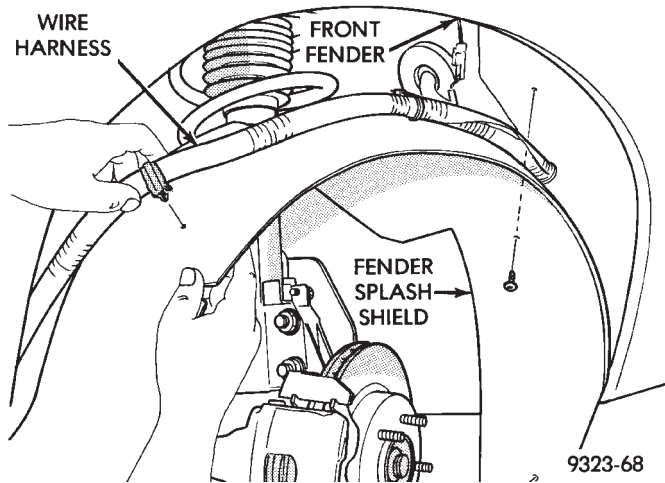

Fig. 10 Fender Splash Shield
(5) Disengage clips holding wire harness to splash shield (Fig. 10).
(6) Separate splash shield from vehicle.